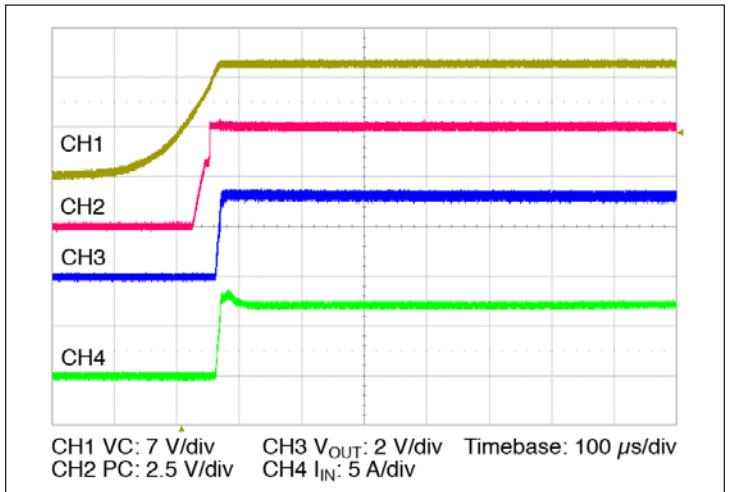

Figure 14 — Start up from application of VC ; V_{IN} pre-applied
- Stand Alone Operation (VC applied after V_{IN}): In this case the module output will begin to rise upon the application of the VC voltage (See Figure 14). The Adaptive Soft Start circuit (See Section 10) may vary the output rate of rise in order to limit the inrush current to its maximum level. When starting into high capacitance, or a short, the output current will be limited for a maximum of 900 μ sec. After this period, the adaptive soft start circuit will time out and the module may shut down. No restart will be attempted until VC is re-applied, or PC is toggled. The maximum output capacitance is limited to 4000 μ F in this mode of operation to ensure a successful start.